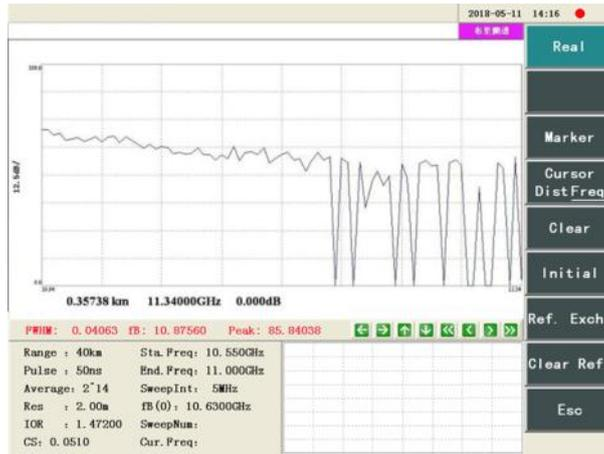

Figure 9-5 Frequency spectrum of starting and ending frequency deviated to the right
3. When the starting and ending frequencies are deviated to the right, the Brillouin spectrum shown in Figure 9-5 will appear.